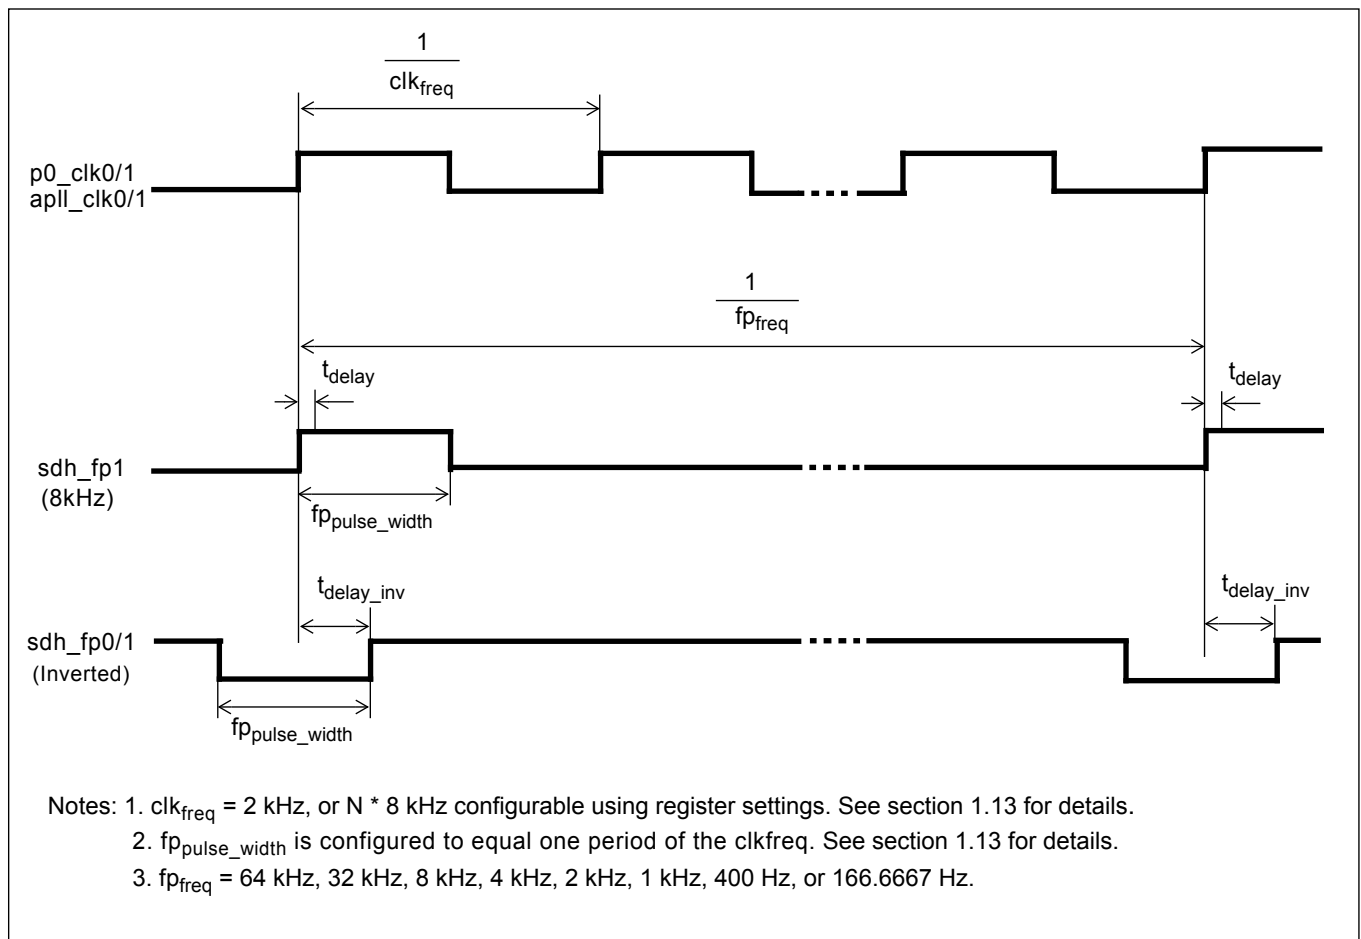

**Figure 40 - E1 Output Frame Pulse Timing**
**AC Electrical Characteristics\* - E1 Output Frame Pulse Timing (See Figure 40).**